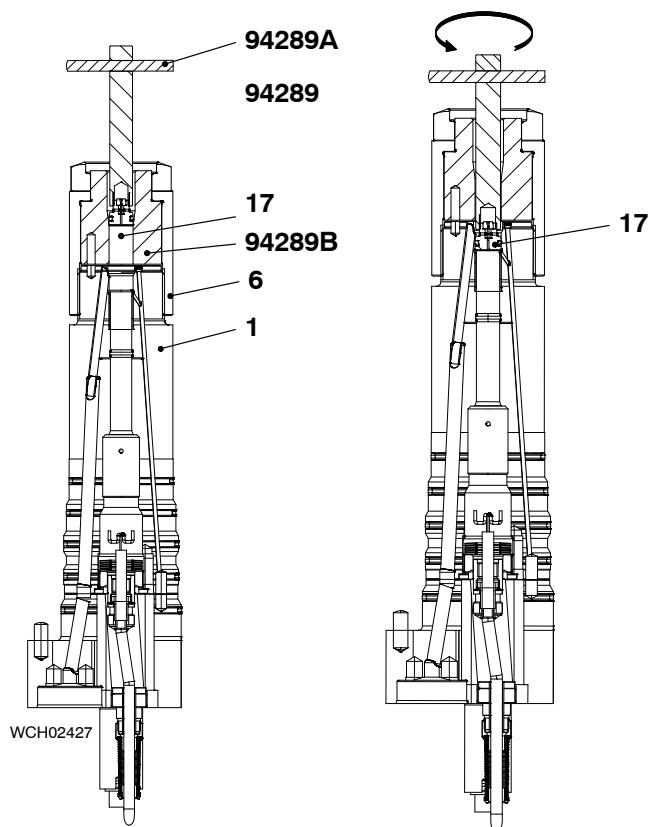

Fig. 7
- 1) Install the pilot valve (17, Fig.7) in the injection valve 1 as follows:
Note: When you do the step blow, make sure that the dowel pin (12) engages with the hole in the intermediate plate (3, Fig. 7).
- 1) Put the nozzle body (4) together with the intermediate plate (3) in position on the injection valve (1).
- 2) Make sure that the sealing faces of the intermediate plate (3) and the related faces in the injection valve (1):
- 3) Apply a thin layer of Never-Seez NSBT to the thread and seating face of the coupling nut (6).
- 4) Attach the coupling nut (6) to the nozzle body (4) with your hand.
- 5) See the formula shown in Fig. 7 where:
- 6) Use the torque spanner 94011A and the wrench extension 94269C-65 to torque the coupling nut (6) to 88 Nm.
- 7) Use the wrench 94269A-65 and the cylinder on the test bench to add between 35° and 40° to the position of the coupling nut (6).
- 8) Apply a thin layer of Never-Seez NSBT to the thread and seating face of the locknut (7).
- 9) Attach the locknut (7) to the nozzle body (4) with your hand.
- 10) Use the torque spanner 94011A and the wrench extension 94269C-41 to torque the locknut (7) to 169Nm.